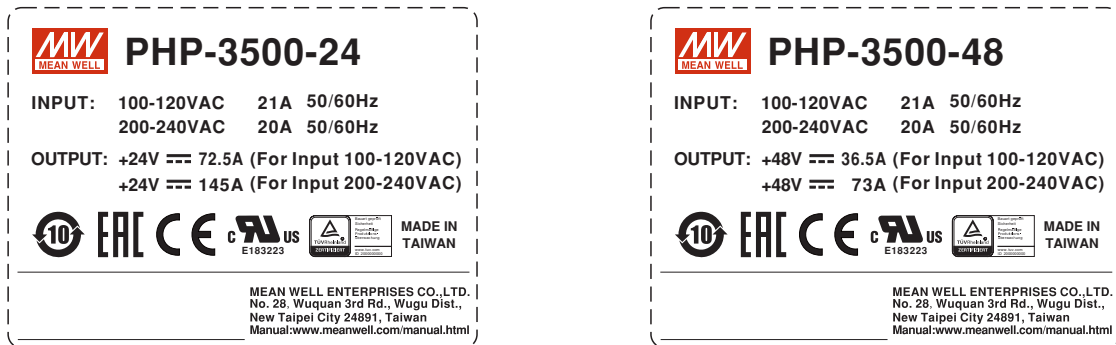

Figure 1-1 PHP-3500 Safety label sticker
- ⊙ Please refer to the safety label sticker on the top of the unit before use (Figure 1-1).